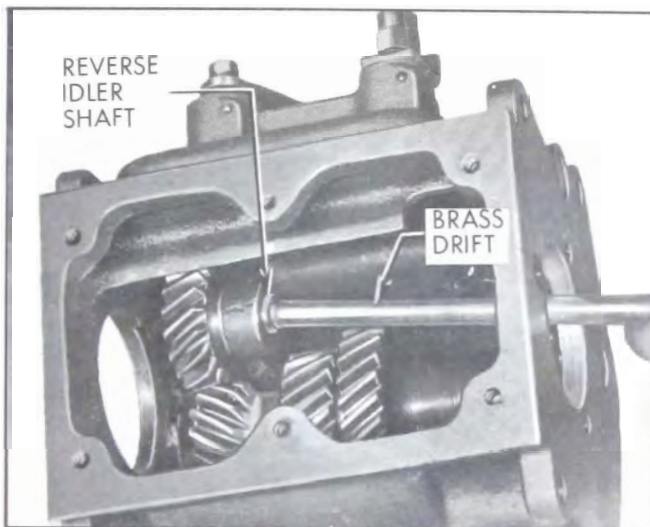

Figure 4-20—Removing Reverse Idler Shaft
11. Remove first-reverse shift shoe from shift shaft. Drive reverse idler shaft out of rear of case using a brass drift. See Figure 4-20. Remove reverse idler gear.